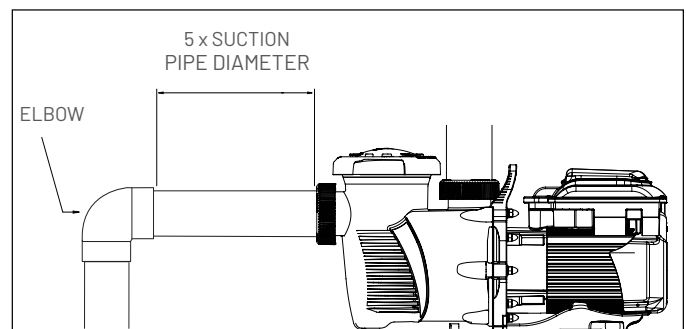

Figure 2: Recommended Piping
4. For most installations Pentair recommends installing a valve on both the pump suction and return lines so that the pump can be isolated during routine maintenance. However, we also recommend that a valve, elbow or tee installed in the suction line should be no closer to the front of the pump than five (5) times the suction line diameter. independently support the pipe near the suction and discharge of the pump in order to reduce the strain on the pump. Avoid overtightening pipe connections. Use only pipe sealants formulated for plastics. Do not use petroleum based products. It is essential that the suction line is free of air leaks. The suction line should always be at least the same size as the suction inlet of the pump. See Figure 2.